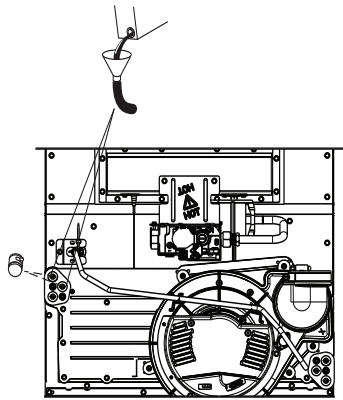
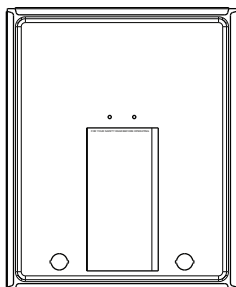

Fig. 19 – Winterizing Furnace
Fig. 20 – Information Booklet Location
- a. Remove filter cabinet door (see Fig. 19 and Fig. 20).
4. Remove one of the unused rubber plugs in the port on the collector box opposite the condensate trap (see Fig. 19).
NOTE: Record the LED status code BEFORE removing the blower access door or turning off 115-v power to the furnace. See the information booklet inside the main furnace door for a service code legend (see Fig. 20).